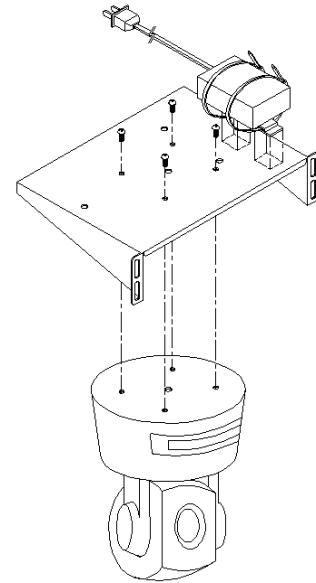

Figure 1 – Mounting Sony network camera to rack.
Step 1 – Open the enclosure and remove the two racks by removing the four (4) screws that hold each in place. Both racks are identical in design.
Step 2 – Mount the camera to one of the racks by using the mounting screws provided with the camera. Attach the camera to the bottom side of the rack as shown in *Figure 1*. Do not use the mounting plate provided with the camera, mount the camera directly to the rack.
Step 3 – Mount the camera's power adaptor to the topside of the rack by first attaching two (2) adhesive backed cable tie pads to the rack located approximately as shown in *Figure 1*. Using two (2) 11" cable ties, insert the cable ties through the openings in the pads and secure the power adaptor by firmly tightening the cable ties around the adaptor. Secure any loose wires/cables to the top of the rack using an additional cable tie and adhesive pad. Be sure to leave enough slack in the power cord so that it may be plugged in to the outlet when the camera is installed in the enclosure.